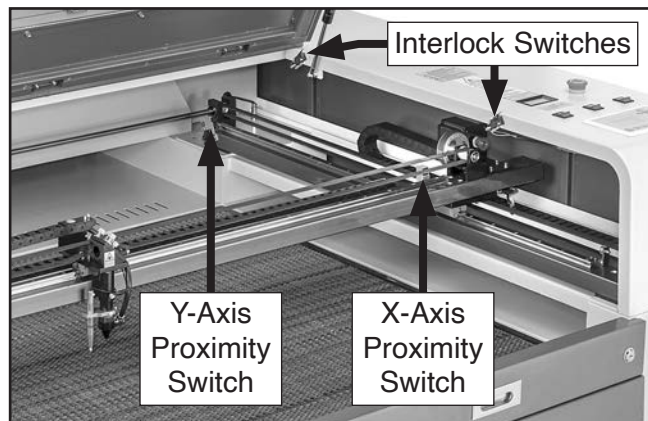

Figure 26. Example of upper safety switch component locations.
12. Open top loading door. Locate X- and Y-axis proximity switches, and top loading door interlock switches, as shown in **Figure 26**.